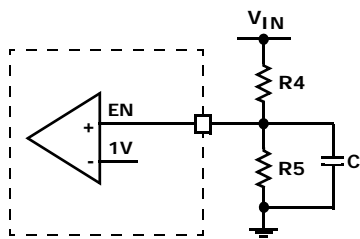

FIGURE 38. EXTERNAL RESISTOR DIVIDER
When the input voltage is below the undervoltage lock-out (UVLO) threshold, the regulator is disabled. To adjust the voltage level of power on and UVLO, use a resistive divider across EN. The input voltage programming resistor R_4 will depend on on the bottom resistor R_5 , as referred to in Figure 38. The value of R_5 is typically between 10k Ω and 100k Ω .
The enable (EN) input allows the user to control the turning on or off the regulator for purposes such as power-up sequencing. When the regulator is enabled, there is typically a 600 μ s delay for waking up the bandgap reference and then the soft-start-up begins. It is recommended that the EN voltage should be kept logic low (less than 400mV), until V_{IN} reaches 2.5V. Refer to Figures 38 and 39 for suggested circuit implementation with V_{IN} slew rate.